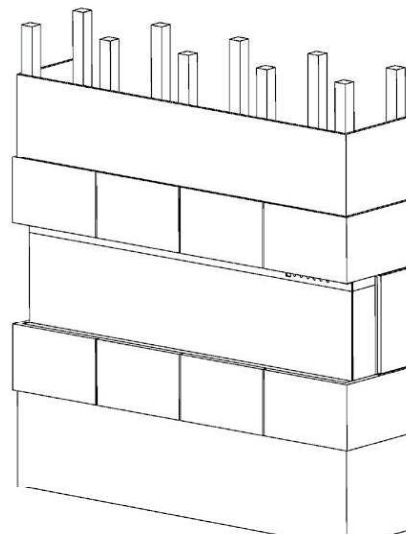

Fig.3-5
8. Decorate plywood or gypsum board with glazed tiles, wallpaper, etc. Fig.3-5